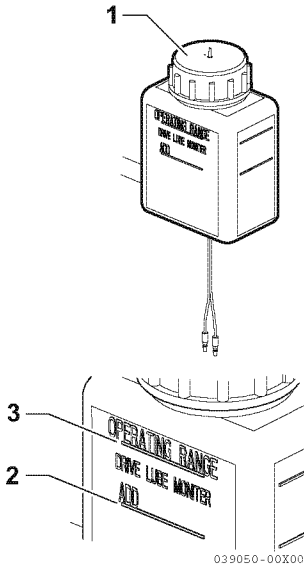

Figure 2
1. Check the stern-drive oil level (**Figure 2**). Keep the oil level at or near the OPERATING RANGE (full) line (3, **Figure 2**) on the oil reservoir (1, **Figure 2**).
2. The oil level is low if it is below the ADD line (2, **Figure 2**) on the oil reservoir (1, **Figure 2**). Fill as needed with the specified oil. See *Fill the Stern-Drive with Oil* on page 28.